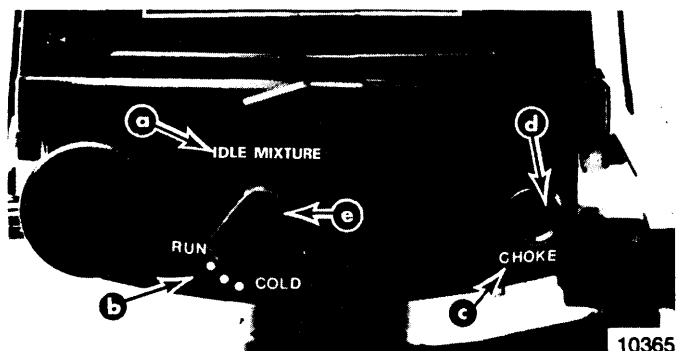

Figure 10. Front View of Merc 40
4. Clean the front of the bottom cowl to remove any oil or grease and install 3 new decals (supplied "Idle Mixture", "Cold/Run", "Choke") in position, as shown in Figure 10.
- c. Remove choke knob, plastic nut and outer spacer from cable. With inner (shoulder) spacer on cable, insert cable thru hole from inside of cowl. (Figures 10 and 11)
- e. Hold remote idle knob in "cold" position (Figure 10) and tighten jam nut against the knob.
- b. Turn remote idle mixture knob to "Run" position (Figure 10) and install wire link rod (supplied) between remote idle lever on carburetor and remote idle "L" shaft ("Z" bend end of link rod to lever on carburetor). After inserting wire link rod thru hole in "L" shaft. bend link rod end, as necessary, to prevent it from unhooking.